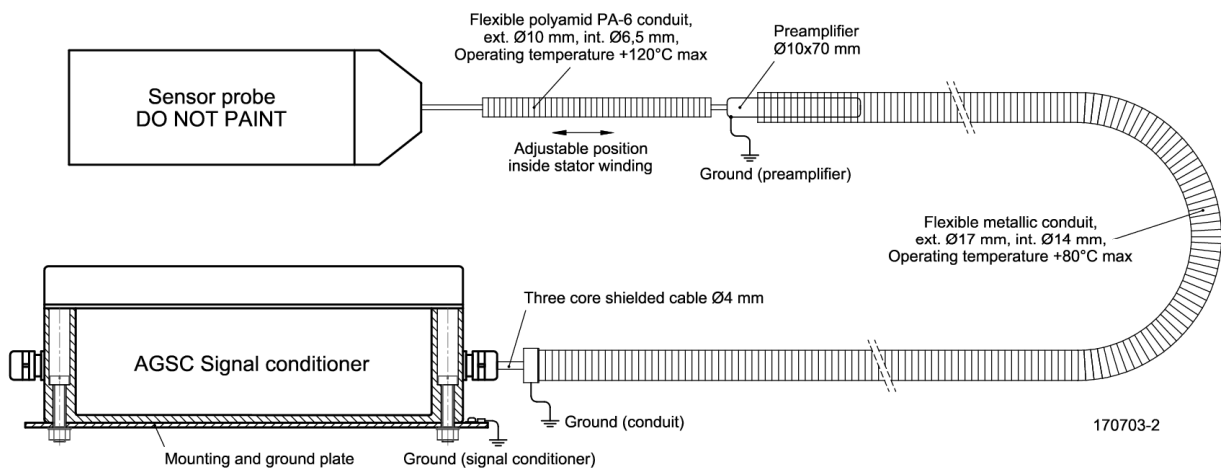

Figure 36. Air Gap Sensor AGS Shielding and grounding
CAUTION: *Grounding is essential for system operation integrity as well as for protection against hazardous voltages. For best grounding, provide the shortest path possible between the AGSC signal conditioner unit and the grounded structure. Use flexible steel conduit to protect all cables from electromagnetic fields except inside of stator winding where PVC conduit shall be used. Keep ample distance from nearby power lines (Figure 36).*
WARNING: **BEWARE OF HIGH VOLTAGES ON THE STATOR BARS (5...22 KV). DO NOT ATTACH TRIAXIAL CABLE DIRECTLY TO THE STATOR BARS. THE TRIAXIAL CABLE, PREAMPLIFIER AND MULTICORE SHIELDED CABLE MUST BE PROTECTED BY A FLEXIBLE OR SEMI-RIGID STEEL WITH POLYETHYLENE (PVC) CONDUIT, (SEE FIGURE 36).**
Most important for generators with newer Switching power regulators in the Exciter circuit (a source of broadband electrical noise) (Figure 36).
5.3.2. Check grounding scheme. Ground loops shall be avoided (Figure 36).